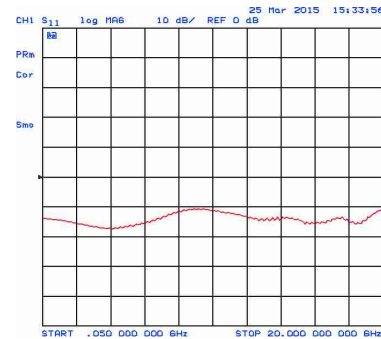

figure 1
- The measured signal is transformed from frequency to time domain (figure 1 & 2). Similar to a conventional Time Domain Reflectometer (TDR), all impedance deviations from DUT components (e.g. BNC connector, cable, etc.) can be clearly identified.